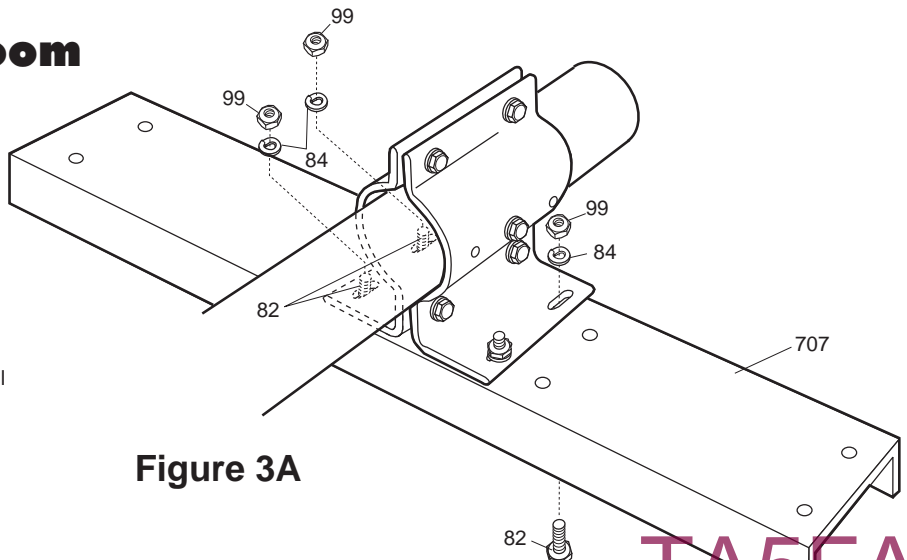
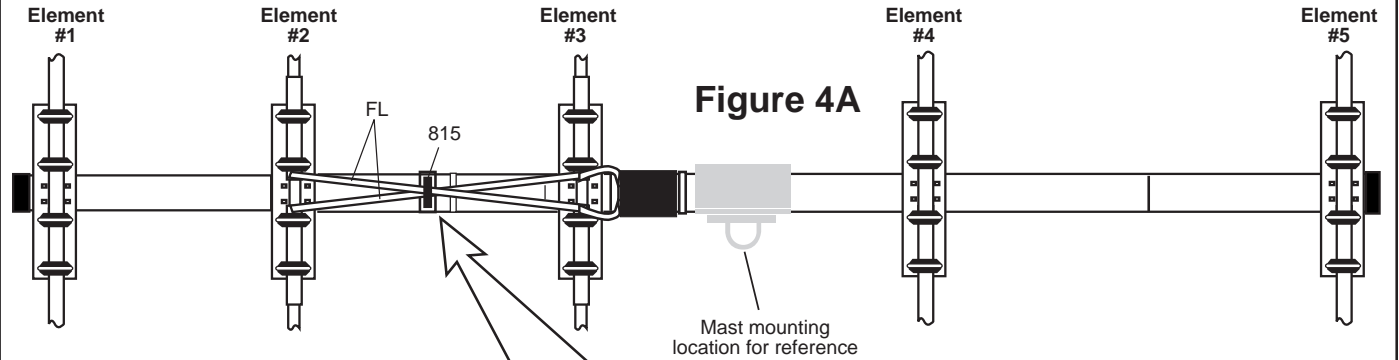

Figure 3A
Figure 4A
Figures 3A and 3B show the steps for element mounting on the XM520 boom. For element location see Figure 4A. Attach the U-channel plate (707). Attach elements using 4 Cush-a-Clamps (98) (Figure 3B). Be sure Cush-a-Clamps are placed in the correct locations according to Figure 3B. The element pictured in Figure 3B is the Driven Element. All elements mount with the same hardware.